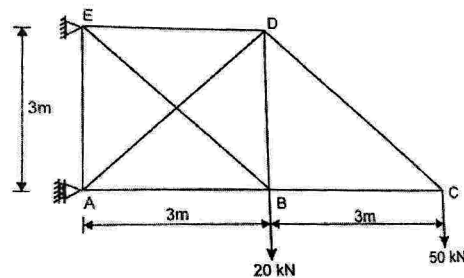

Fig.1
11. a) Find the axial forces in the members of the braced cantilever truss shown in Fig. 1. All members are of the same material and have the same cross-sectional area.